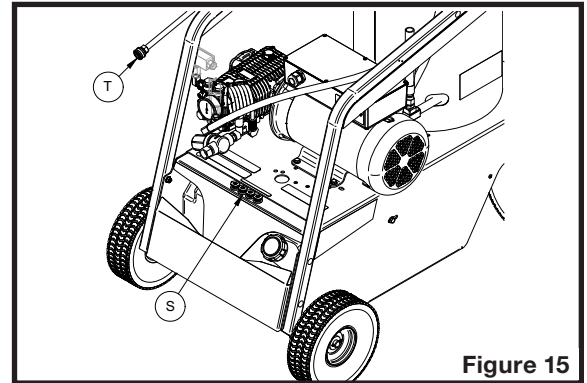

Figure 15
2. If the machine has been used for soap injecting, install a high pressure yellow, green or white nozzle (S on figure 15) at wand outlet (T on figure 15)